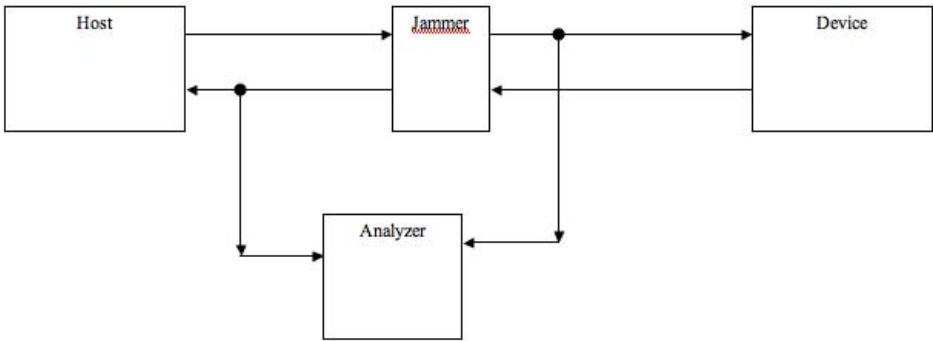
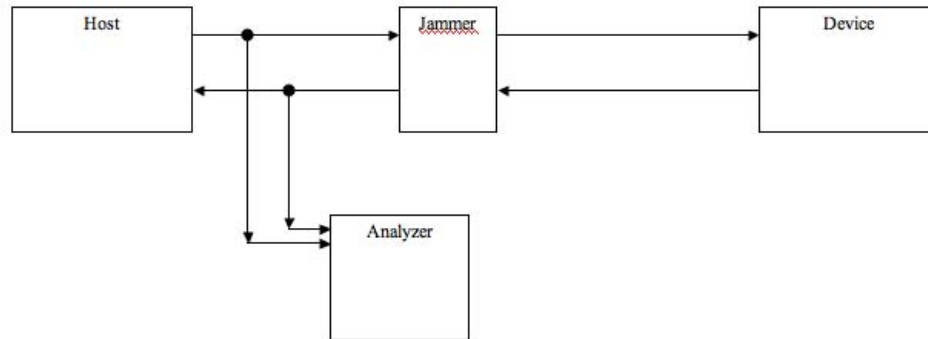
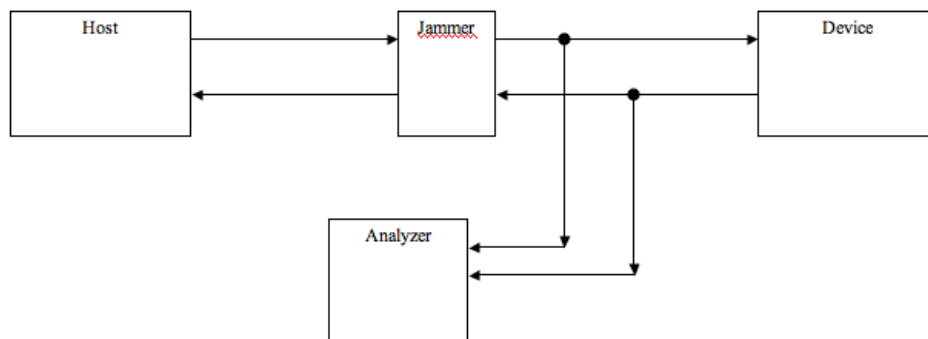

Figure 4.9: Jammer and Analyzer with Analyzer after Jammer
Figure 4.10: Jammer and Analyzer Host Side
Figure 4.11: Jammer and Analyzer Device Side
- **JA (After Jammer):** Analyzer captures Jammer to Host and Jammer to Device. Analyzer is after Jammer on both paths. See Figure 4.9.
- **JA (Host Side):** Analyzer captures Host to Jammer and Jammer to Host. Analyzer is before and after Jammer on Host side. See Figure 4.10.
- **JA (Device Side):** Analyzer captures Jammer to Device and Device to Jammer. Analyzer is before and after Jammer on Device side. See Figure 4.11.
Note: When the Unit Under Test (UUT) is the Host, using JA (Host Side) (see Figure 4.10) will give the most accurate recordings of Host behavior, though the Jammer delays will accumulate in the round trip. When the Unit Under Test (UUT) is the Device, using JA (Device Side) (see Figure 4.11) will give the most accurate recordings of Device behavior, though the Jammer delays will accumulate in the round trip. The After Jammer configuration (see Figure 4.9 on page 315) is useful when debugging a system, as the tapping points are balanced to account for Jammer delays. Note that when SATA traffic is recorded, this configuration might show out of order HOLD/HOLDA primitives, due to the special handling of these primitives by the Jammer.